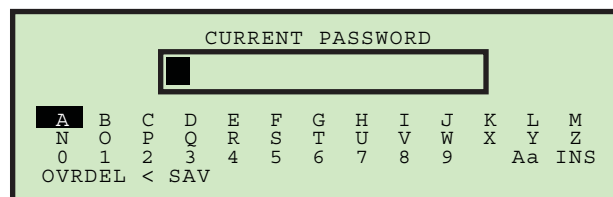

Figure 21: Current Password screen
3. Press Enter to display the CURRENT PASSWORD screen (Figure 21).